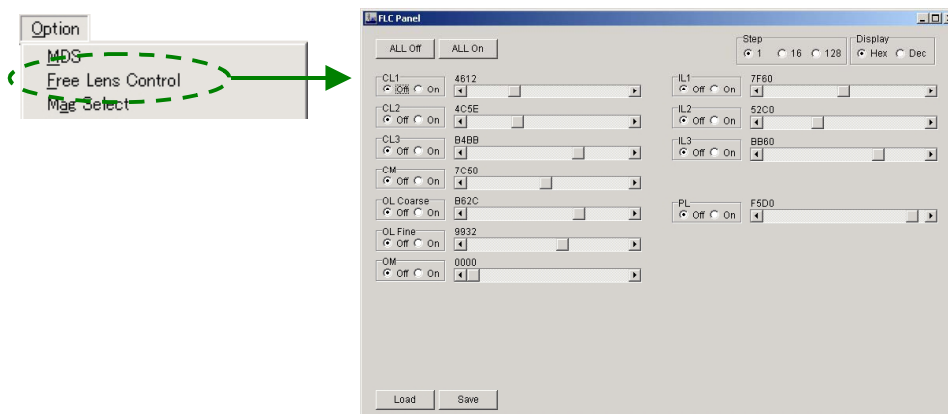

Fig. 5.59 FLC Panel screen
1. Select **Option** from the **TEM Controller** menu bar and click on **Free Lens Control** to open the **FLC Panel** window (see Fig. 5.59).